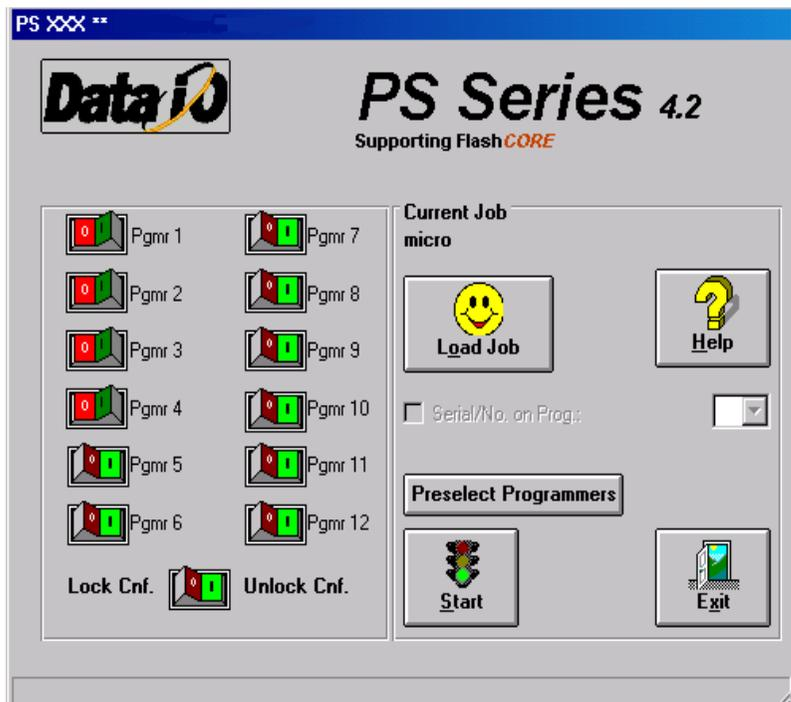

Figure 3-6—Programmers selected
- 1c) Click the **I** (green) side of the toggle switch to enable a programmer. Click the **O** (red) side of the toggle switch to disable a programmer. In *Figure 3-6*, programmers 1, 2, 3, and 4 are disabled, and programmers 5, 6, 7, 8, 9, 10, 11, and 12 are enabled.